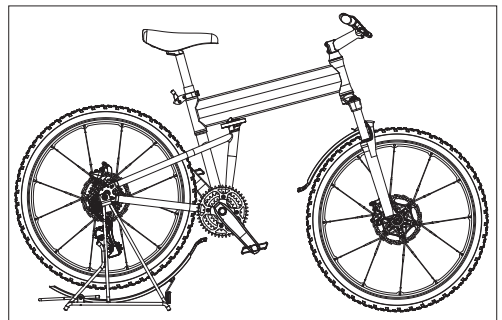

Fig. 22: RackStand in down position.
3. Lift the rear of the bike to allow the RackStand to finish rotating under the rear wheel (Fig. 22).